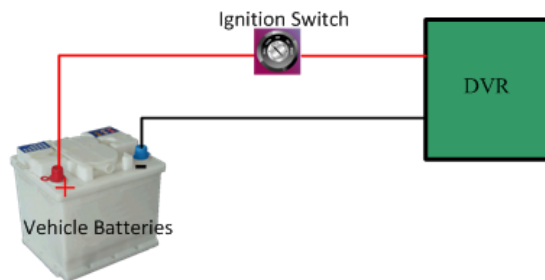

Fig 2.6 Positive pole ignition switch
- (1) Positive pole ignition switch: ignition switch is connected to the positive pole of vehicle battery and supply high signal (as in Fig 2.6)